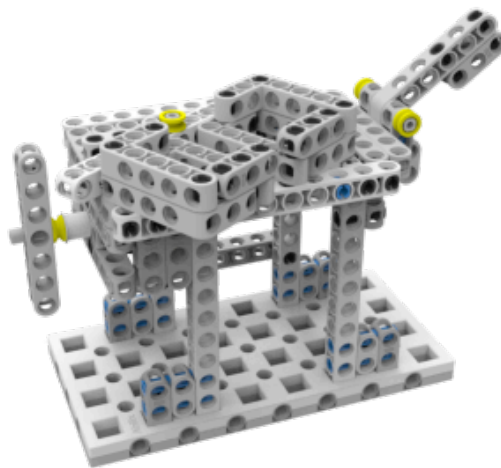

Figure 3-3-4 Finished Status 3
3.3.4 Robot collects and brings the collecting box with information back to the base, the Finished Status 3 (as shown in Figure 3-3-4, 20 points per *information*).